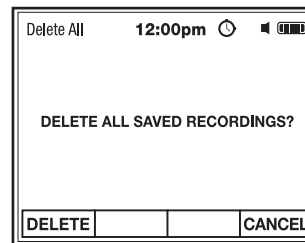

Fig. 16
2. Press the F1 soft key to DELETE **ALL RECORDINGS** (Fig. 16).
3. Press the F4 soft key to CANCEL and return to Recordings Menu without deleting (Fig. 16).